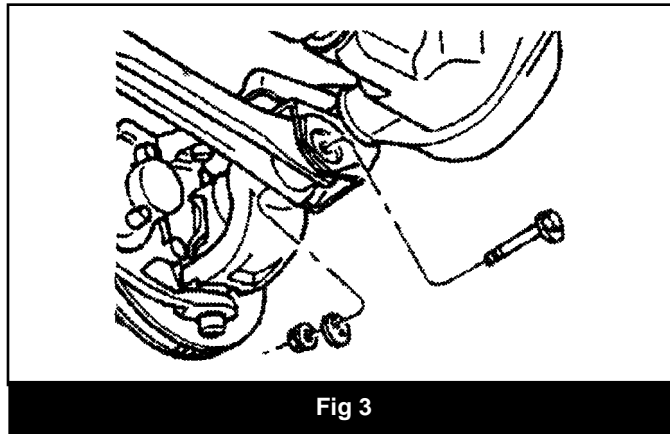

Fig 3
7. Remove the lower suspension arm nut, cam, and cam bolts from the axle as shown in figure 3.